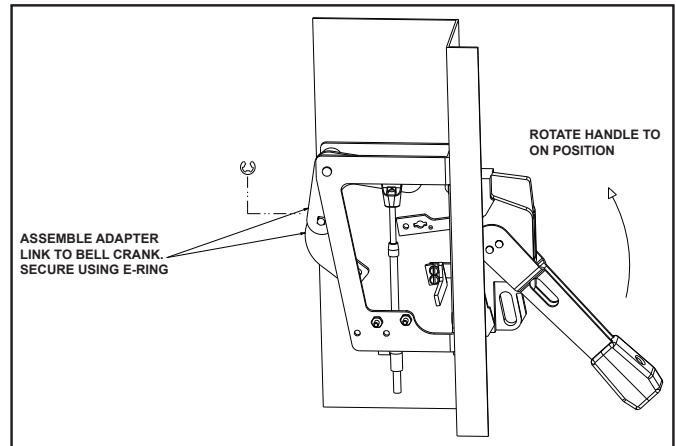

Fig. 1-4 Assembly of Adapter Link to Bell Crank.
4. Insert the adapter link into the pin of the bell crank via the largest hole on the link. See Fig 1-4. Secure the adapter link by inserting the E-ring into the slot on the bell crank pin.